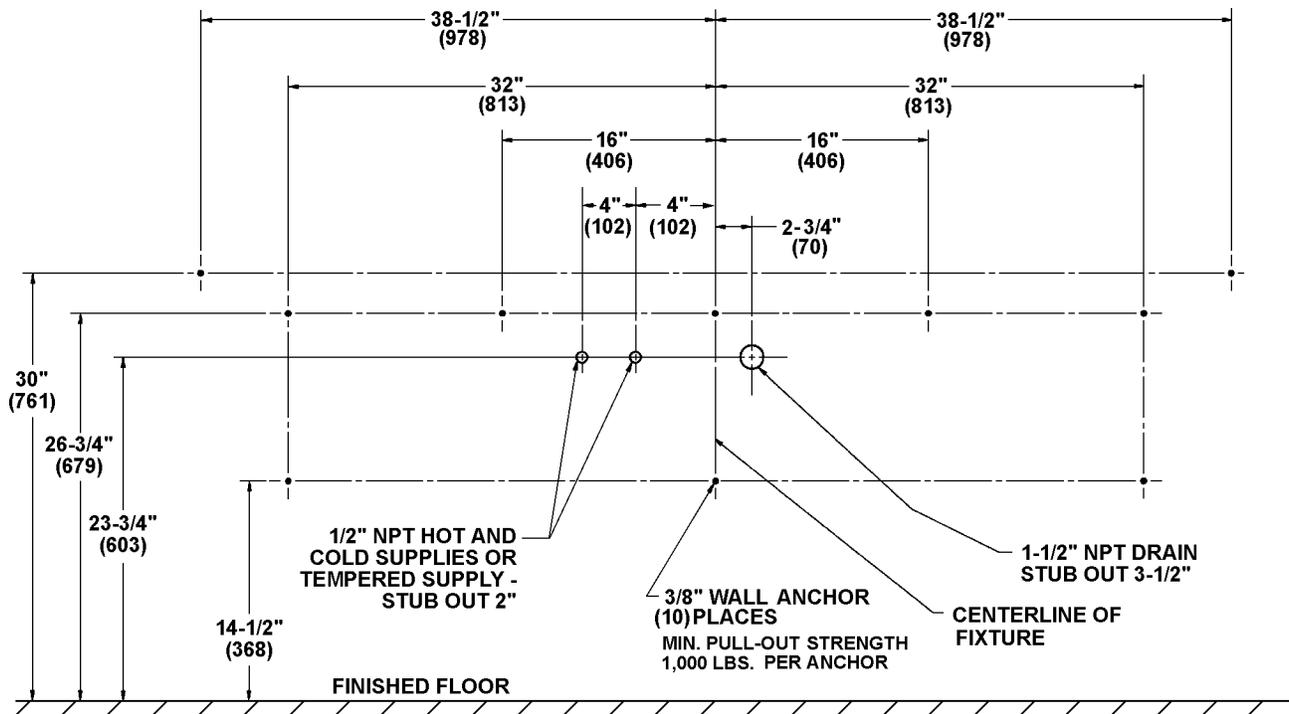

Figure 1b
Note: See Figure 1a (below) and Figures 1b and 2 (on page 6) when roughing in the Express®.
**⚠ IMPORTANT:** Dimensions shown in Figure 1a are for Juvenile Height grades Pre-K thru 5 or 6, and in Figure 1b for Juvenile Height grades 6 thru 8 or 9.